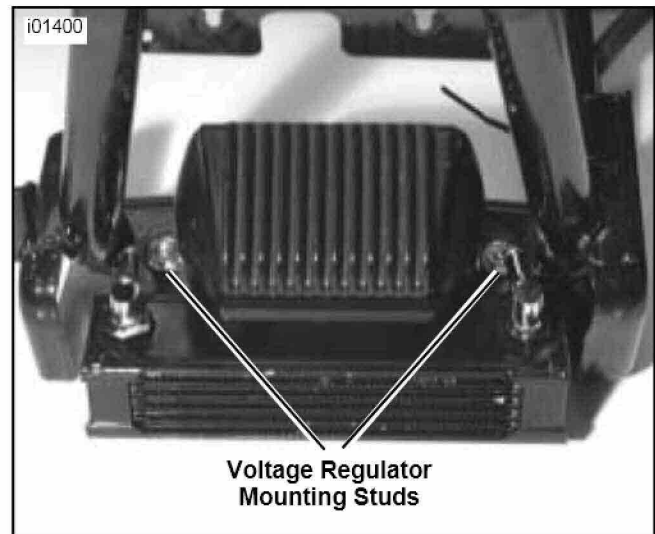

Figure 2. Heat Exchanger Mounting Location
- Remove voltage regulator from mounting studs. Place heat exchanger on voltage regulator mounting studs. See Figure 2. Replace voltage regulator on studs over heat exchanger using hardware removed in Step 2, but do not tighten completely.
6. Place heat exchanger on voltage regulator mounting studs. See Figure 2. Replace voltage regulator on studs over heat exchanger using hardware removed in Step 3, but do not tighten completely.